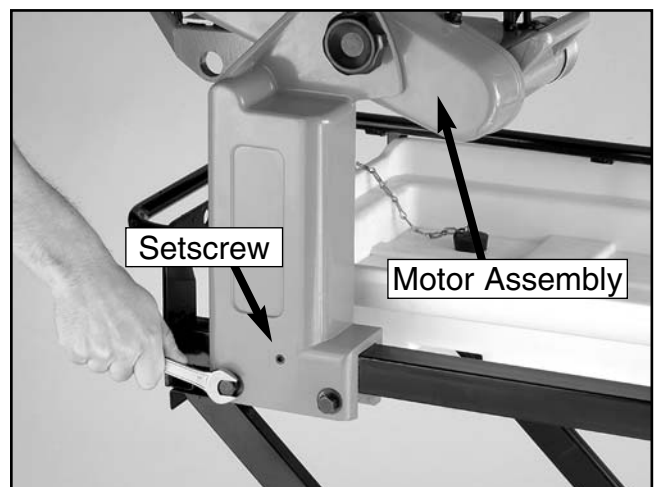

Figure 10. Mounting the motor assembly.
8. Mount the motor assembly to the frame using (2) M10-1.5 x 75 hex bolts, (2) M10 lock washers, (2) M10 flat washers, and (1) M10-1.5 x 15 setscrew as shown in **Figure 10**.